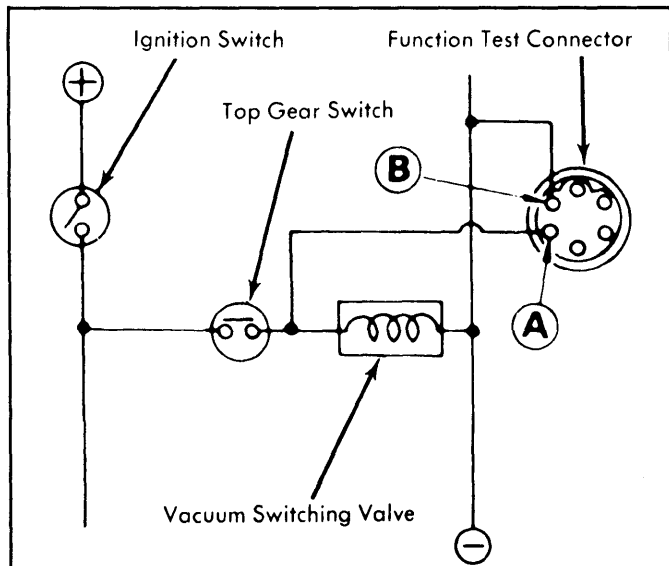

Fig. 5: 1977-78 200SX & 710 TCS Electrical Circuit
4) Check electrical system at function test connector. See Fig. 5. Turn ignition on (DO NOT start engine). Check voltage across terminals "A" and "B". Reading should be zero (0) volts in 4th or 5th gear, 12 volts in all other gear positions.